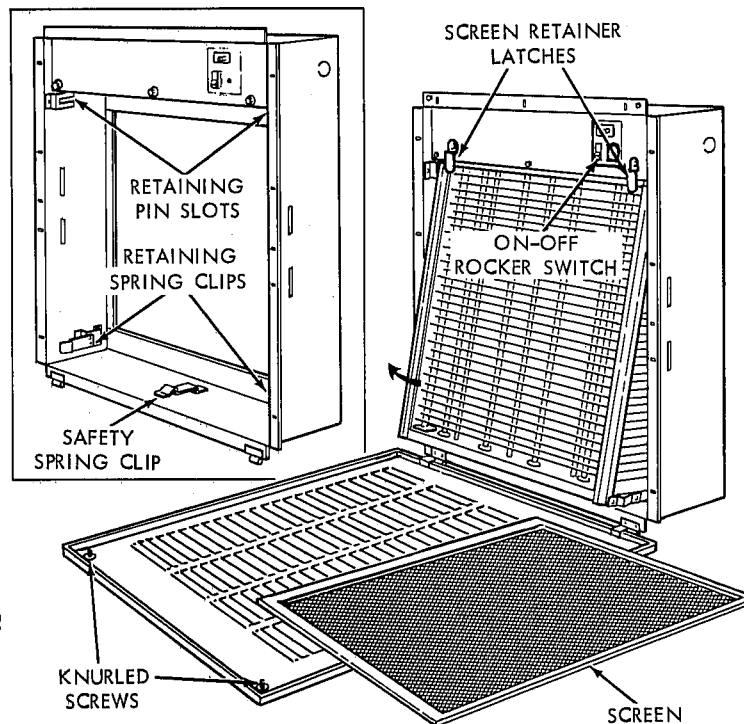

Figure 22
4. Release the two retaining spring clips (one at each side, Figure 22) and pull cell outward at bottom until it is stopped by the safety spring clip at bottom center of cabinet.